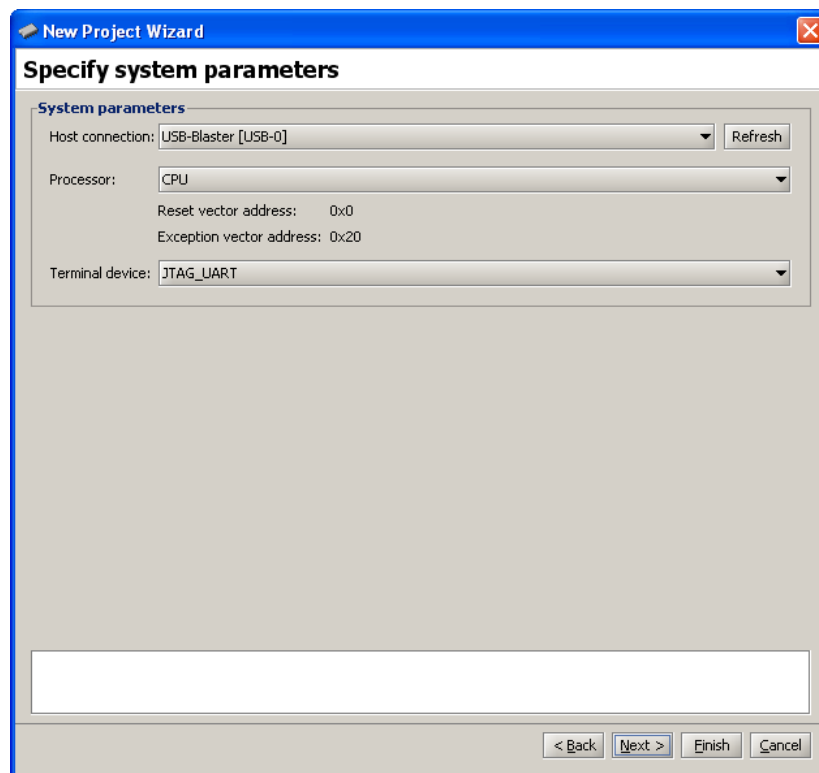

Figure 9. Specifying system settings.
4. Click **Next** to advance to the window in Figure 9. This dialog is used to specify the connection to the FPGA
For this tutorial, accept the default values that are displayed in Figure 9.